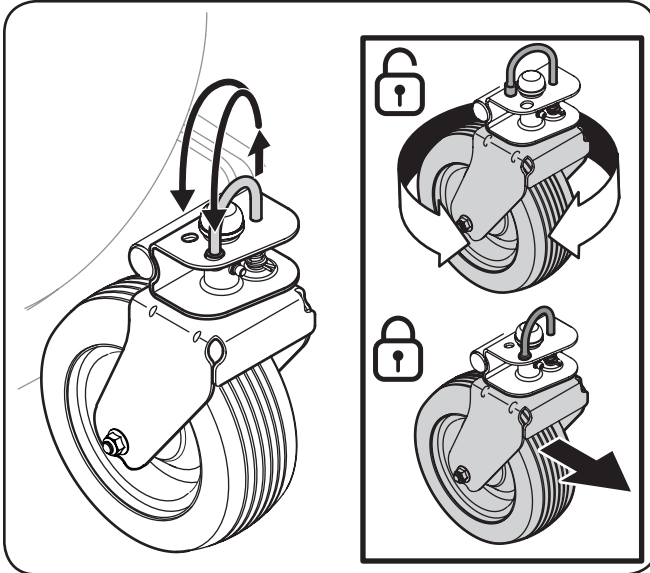

Figure 4-6
1. Lift and place the pin into the forward hole for locked or straight ahead operation and when operating across slopes. See Figure 4-6.